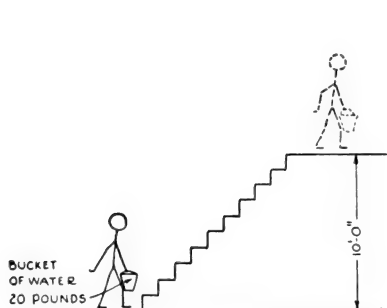
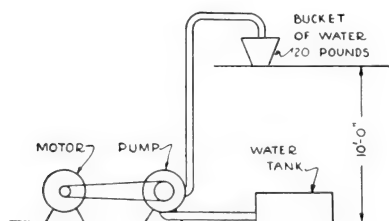

Fig. 1. Man Carrying a Bucket of Water Up a Vertical Distance
Fig. 3. Pumping Water By Means of a Motor Driven Pump
Fig. 1 shows a man carrying a bucket of water weighing 20 pounds up a flight of stairs to a platform 10 feet high. The force required to lift the bucket of water is 20 pounds, and the vertical distance it has been raised is 10 feet. The force required to lift a load or weight of any kind is always equal to the load. If an object weighs 20 pounds, then 20 pounds of force is required to lift it. The quantity of **work** the man has done is the product of the force and the distance upward, or 20 pounds multiplied by 10 feet, which equals 200 foot pounds. In formula form this is written as follows:
Suppose, instead of lifting the water by manual effort, it is forced up to the bucket by a pump driven by a motor, as shown in Fig. 3. In order to fill the bucket, which is placed upon the platform 10 feet above the level of the water tank, 20 pounds of water are required. Therefore, the motor must do 200 foot pounds of **work**. Here the motor does the work done by the man in Figs. 1 and 2. When a horizontal force moves a body horizontally, the **work** is the product of the force and the horizontal distance. As
**Power** means the speed or rate of doing work. The faster **work** is done, the greater the **power** required to do it. Fig. 3 shows a motor-driven pump raising water from a tank to a platform 10 feet above it. To deliver 20 pounds of water, it will take 200 foot pounds of work. In order to deliver this water at the rate of 20 pounds per second to a height of 10 feet, the power required is  $\frac{20 \times 10}{1} = 200$  foot pounds per second, or  $200 \times 60 = 12,000$  foot
Referring to Fig. 3, the horsepower required to raise 20 pounds of water 10 feet in one second is
In the problem illustrated by Fig. 3, it was stated that 20 pounds of water was being delivered to the platform in one second. Thus we speak of the water as flowing at the rate of 20 pounds per second. In much the same way we speak of electricity as flowing along a wire at the rate of so many **coulombs** per second. The coulomb is the unit of quantity of electricity, just as the gallon is the unit of quantity of water. We have to consider the rate of flow of electricity so often that we have a special name for the unit of rate of flow (one coulomb per second). We call it an **ampere**. Thus 5 amperes means 5 coulombs per second.